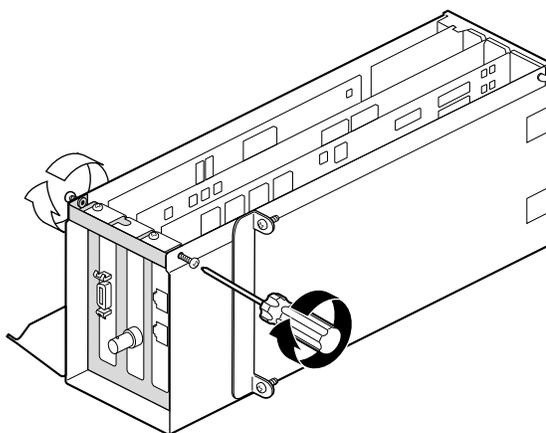

Figure 4-25 Reinstalling the I/O Door Screws
6. Insert and tighten the screws that secure the I/O door, as shown in Figure 4-25.